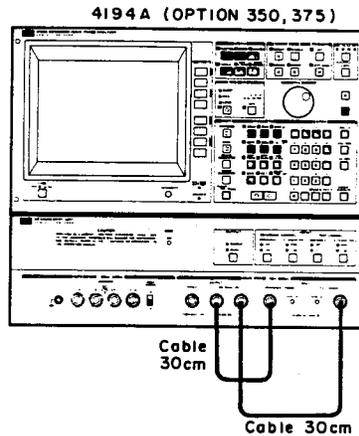

Figure 4-26. Power Splitter Test Setup 2
7. Change the cables as shown in Figure 4-26.